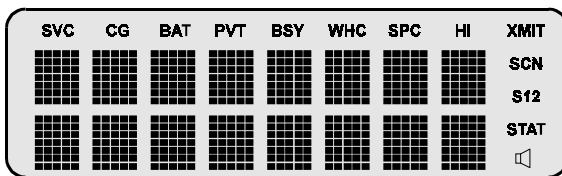

Figure 4 - M-RK II Power-Up Display
1. To Access the Orion Control Unit Test Mode, press the appropriate two (2) keys on the keypad simultaneously. See Figure 4.